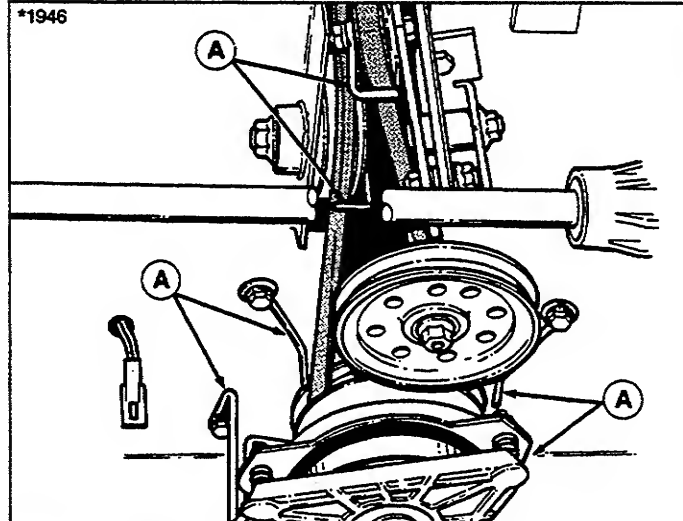

Figure 47. Belt Stop Locations
12. Release parking brake to check belt stop adjustment. There should be 1/16" - 1/8" clearance between belt and belt stops. Five belt stops are shown in figure 47.